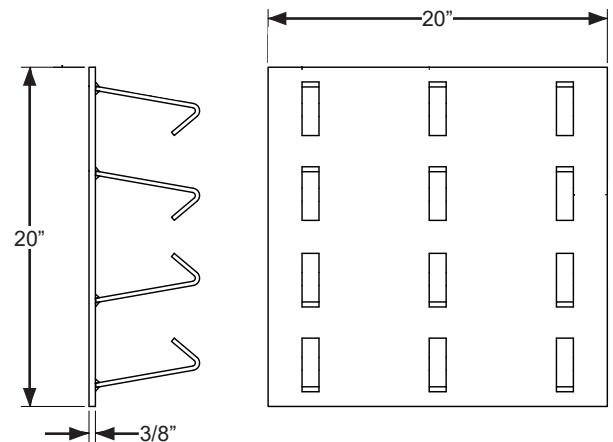

Figure 9
- **Wall Embed Method (Part #7953-0119, Figure 9)**
If optional embed plate is present, weld three sides of PowerStop back plate to the embed mounting plate with ten (10) 4" long, 1/4" fillet welds. See Figure 9.